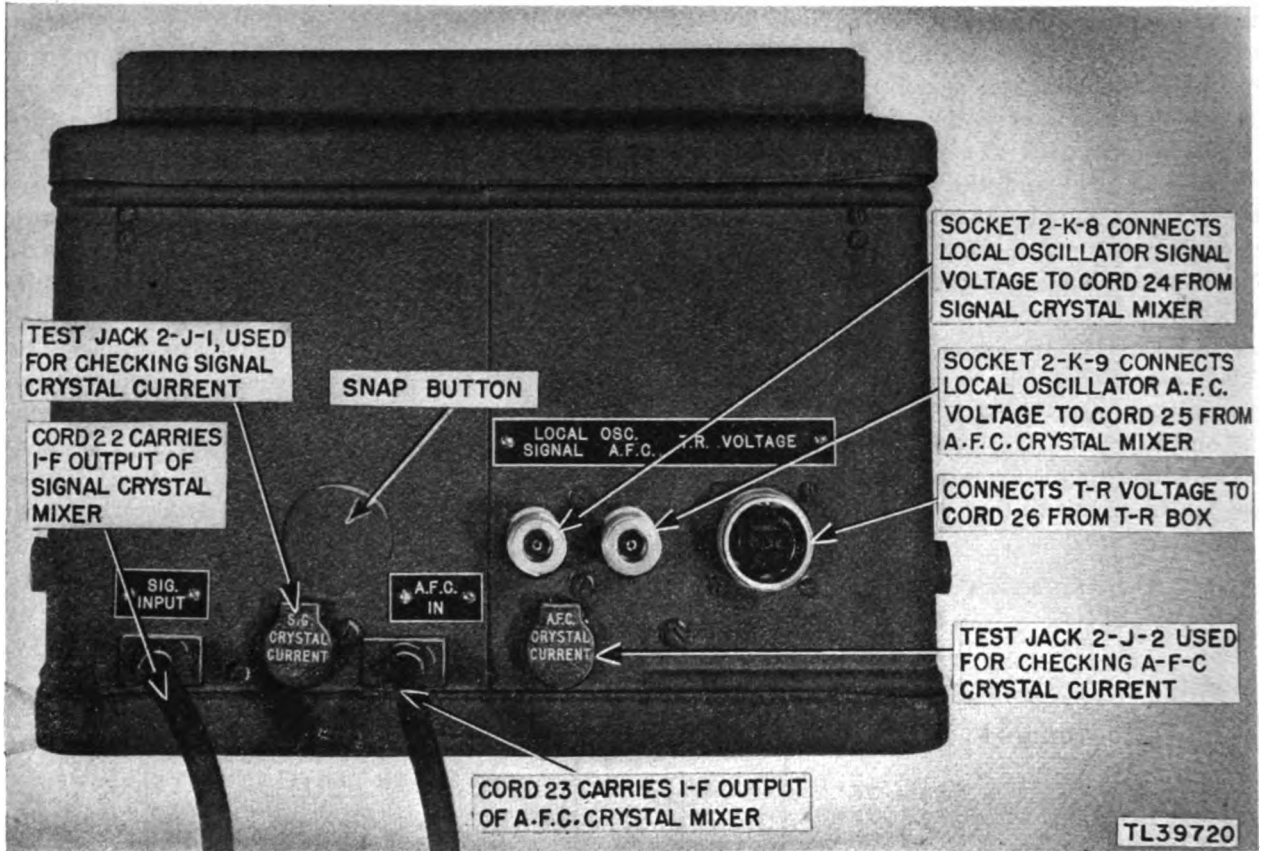

Figure 78. Radio Receiver BC-1223-A, end view of chassis.
(8) *Indications of oscillations.* If the local oscillator is operating properly, the crystal current in the A.F.C. and signal crystals will be between 0.3 and 0.4 ma. Test jacks 2-J-1 and 2-J-2 are available at the bottom of the receiver for the measurement of crystal current (fig. 78).
**c. A.F.C. AMPLIFIER.** The input of the A.F.C. amplifier 2-V-10 (6AC7) (figs. 73 and 84) is coupled through a 72-ohm coaxial cord (cord 23) from the A.F.C. crystal mixer through double-tuned coils 2-L-1 and 2-T-2 to the grid of the amplifier. The purpose of the series coil 2-L-1 is to match the impedance of the crystal mixer and input cable to the A.F.C. amplifier. The primary half of 2-T-2 is untuned and is the coupling coil to transfer the energy from the series coil 2-L-1 to the transformer 2-T-2. Both coils 2-L-1 and 2-T-2 are inductively tuned by brass slugs. Test jack 2-J-2 (fig. 78) is used to measure the A.F.C. crystal current by means of an external meter. The 100-ohm resistor 2-R-49 maintains the proper operating voltage on the crystal. The grid load of the tube is 2-T-2, a parallel-tuned circuit, and at resonance maximum voltage will appear at the grid. The tube is biased Class A by means of the 51-ohm cathode resistor 2-R-48, which is bypassed by a 0.001-mf capacitor 2-C-34 to prevent degeneration. The screen is tied to +100 volts through the 270-ohm decoupling resistor 2-R-5. A 0.001-mf capacitor (2-C-35) serves as the screen bypass. The plate of this
much stronger, it is only loosely coupled to the signal crystal mixer; as a result of this loose coupling, only a very small part of the echo signal is lost in the oscillator coupling. To prevent overload and damage to the crystal, the disk coupling the output of the local oscillator into the crystal mixer cavity must be kept well out of the cavity initially, and then screwed in carefully until the normal current flows through the crystal. This is indicated by a reading of approximately 0.4 ma. A test jack 2-J-1 (fig. 78) is
output is taken from the plate with an L-R parallel network (2-L-3) as the plate load. The coil is wound around a resistor of 1,200 ohms and is broadly resonant at 30 mc. The low d-c resistance of the coil tends to keep the plate voltage up, and the resistance in parallel with the coil tends to broaden the bandwidth of the i-f stage. The gain of this stage is approximately 10, and the signal from the plate is capacitively coupled to the grid of the second i-f amplifier by means of the 0.0001-mf capacitor 2-C-6. Test jack 2-J-1 (figs. 78 and 91) is used to measure the signal crystal current when connected to an external meter. The 100-ohm resistor 2-R-1 in series with the test jack gives a small voltage drop to keep the crystal operating at the proper level.